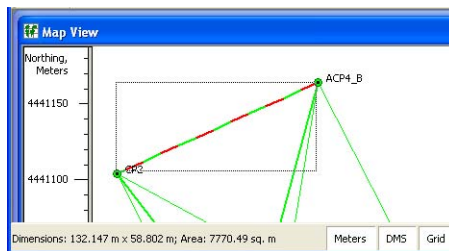

Figure 4-29. Show Area Size
- Show area size – enable to display an area of the rectangle in the Status Bar when the user drags the rectangle on the Map View (Figure 4-29 on page 4-29).